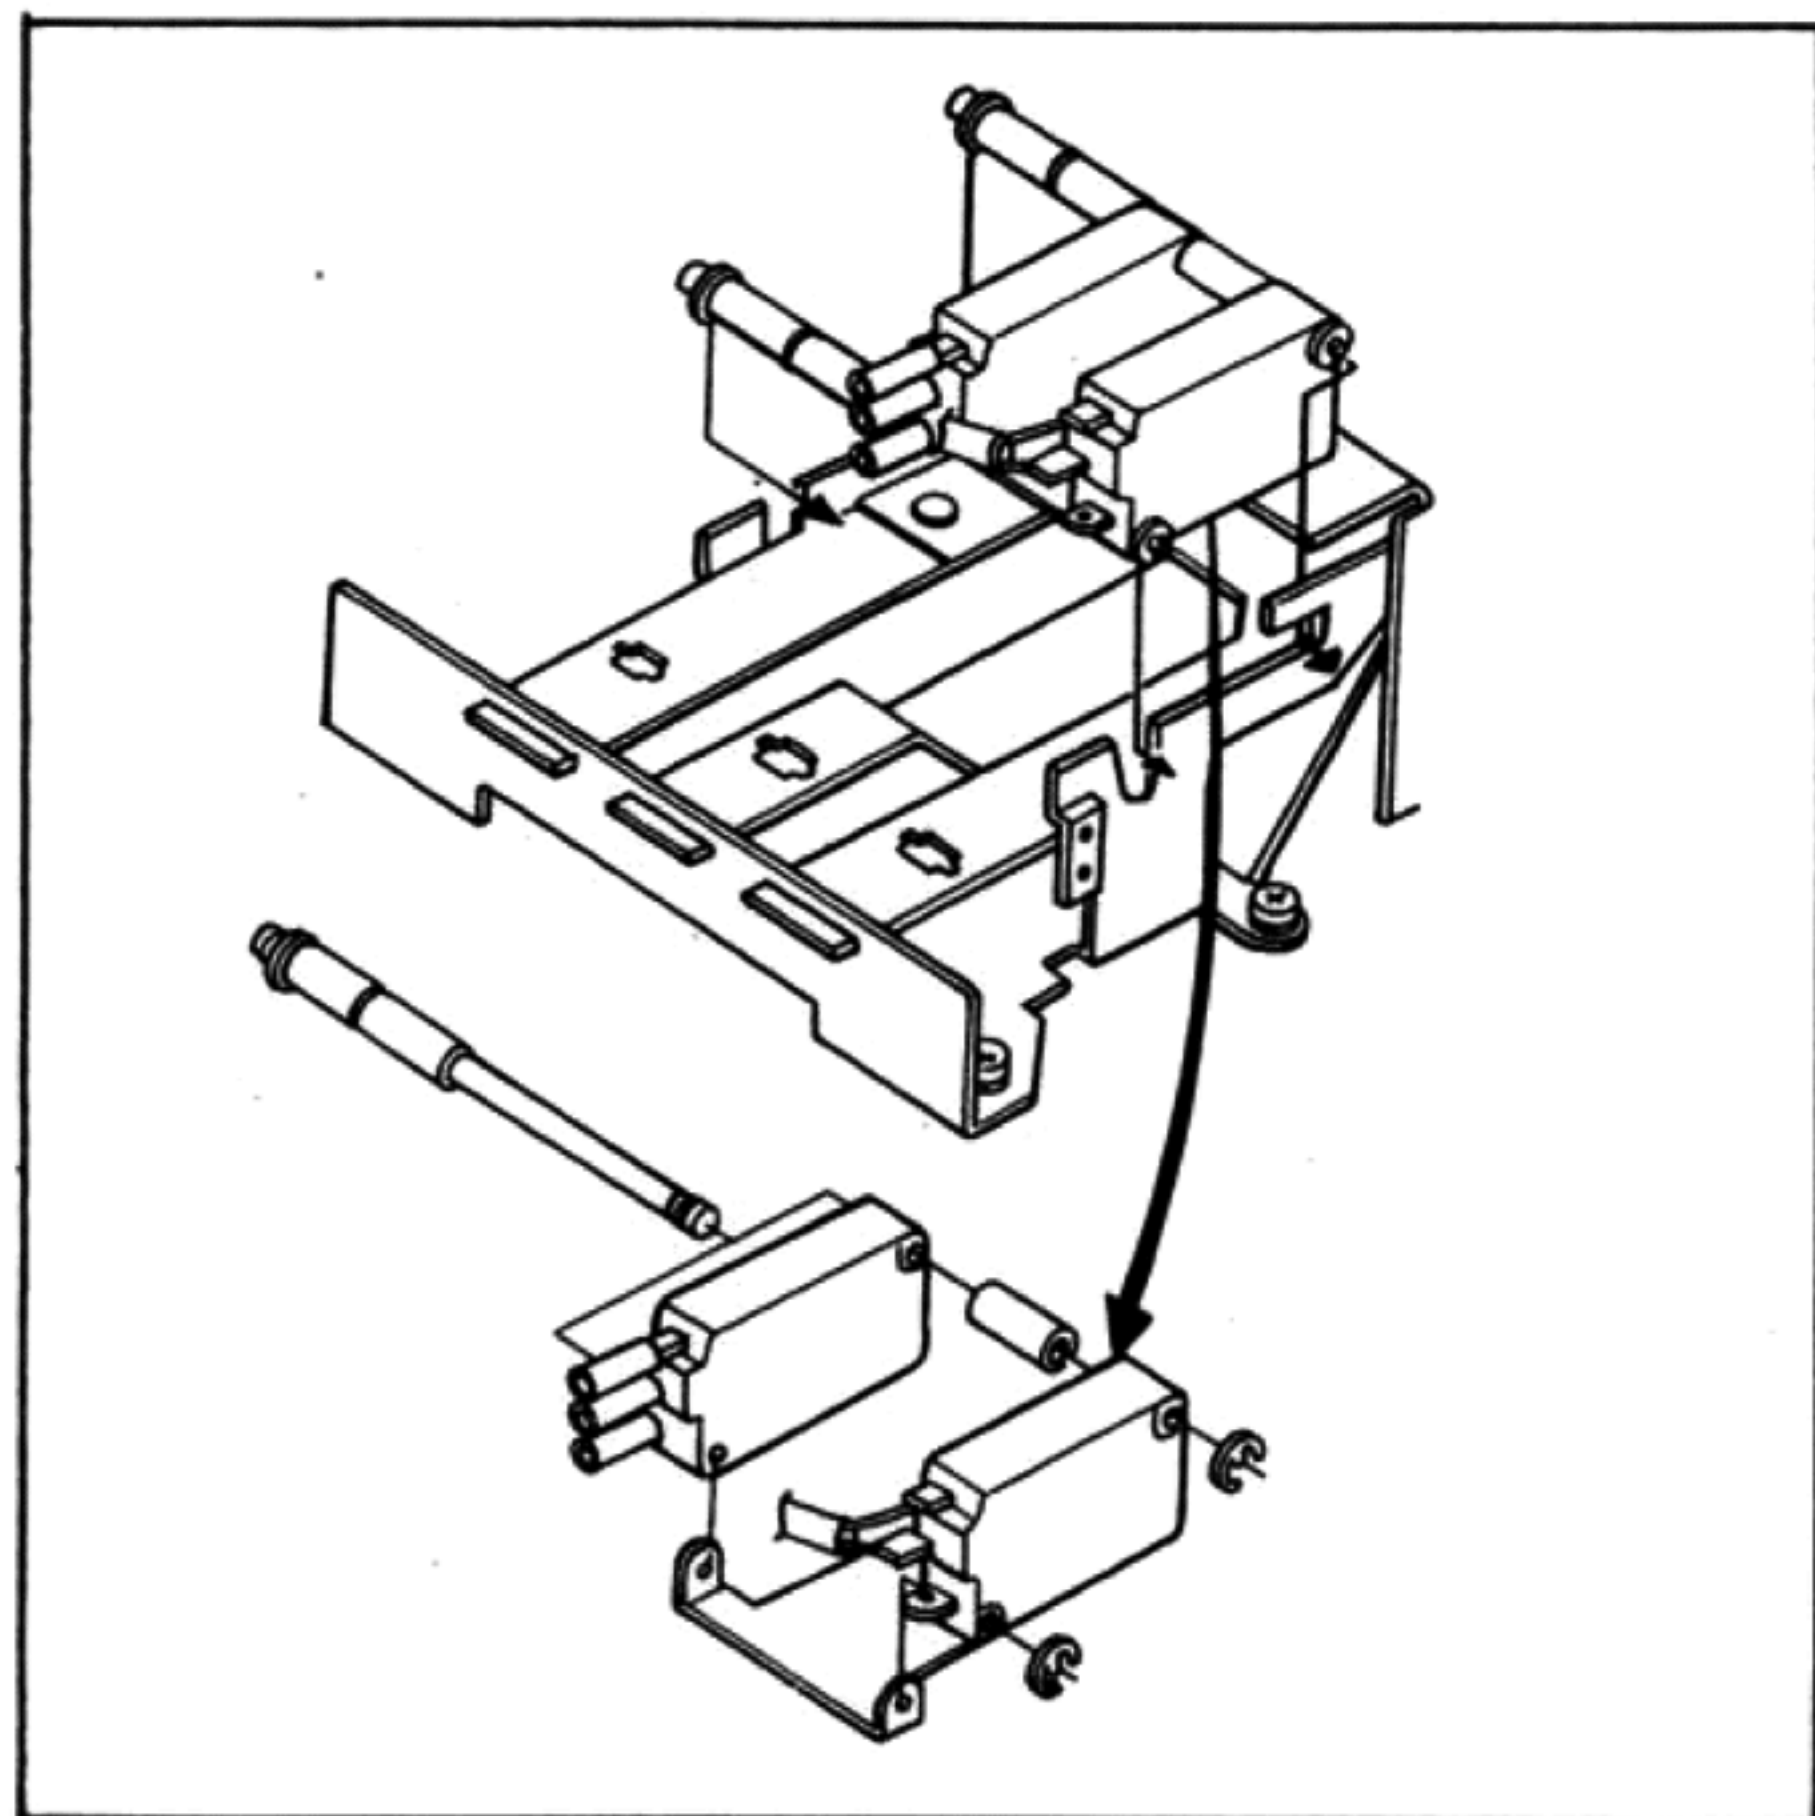

Fig. 2-9. Microswitch replacement
2. Unhook the spring pressing the microswitch holding shaft against its bracket. Carefully draw out the microswitches along with their holding shaft as shown in Fig. 2-9.
3. Remove the retaining rings at one side of the shaft, and then replace the defective microswitch as shown in Fig. 2-9. To reassemble, reverse the aforementioned procedures.